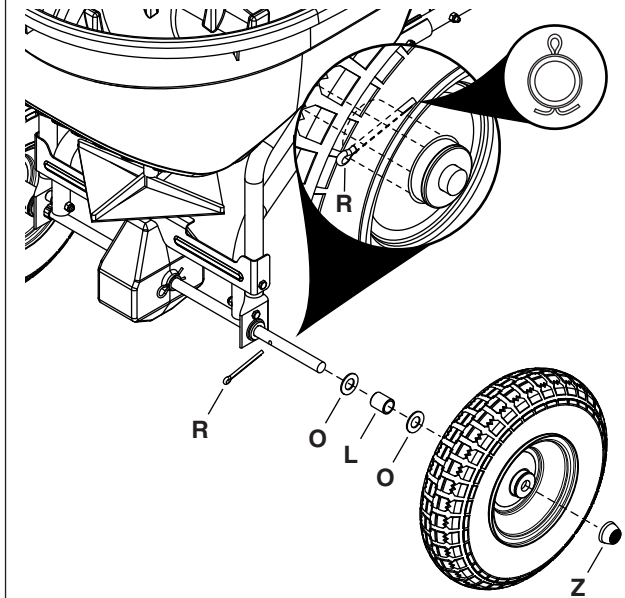

Figure 15
STEP 16: (SEE FIGURE 15)
- Slide a 5/8" washer (O), a spacer (L), a 5/8" washer (O) and a wheel onto the end of the axle with a hole.
- Secure the wheel to the axle with a 3/16" x 2" cotter pin (R), spreading both ends of the cotter pin.
- Carefully hammer a hub cap (Z) onto the axle.